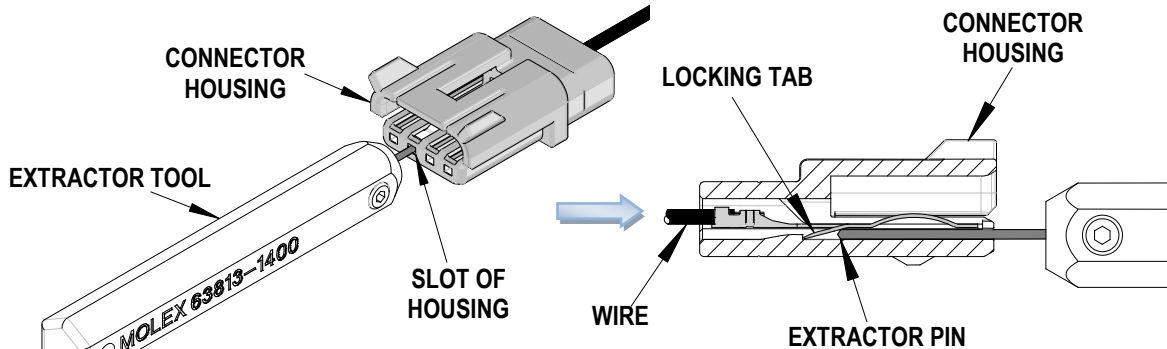

Figure 4
1. Push the terminal forward in the arrow direction before using the Extractor Tool. See Figure 4.